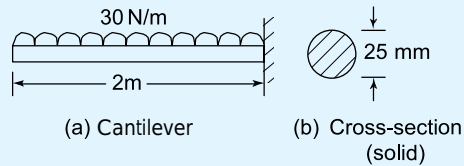
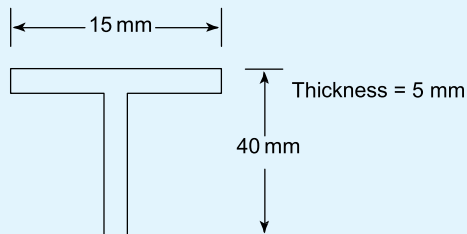

Figure 10.11
Figure 10.12
6. A cantilever of length 2 m, carries a uniformly distributed load of 30 N/m, as shown in Figure 10.11. Determine the maximum stress in the cantilever. [39.1 MPa]
9. If the beam of Figure 10.11 were replaced by another beam of the same length, but which had a cross-section of tee form, as shown in Figure 10.12, determine the maximum stress in the beam.